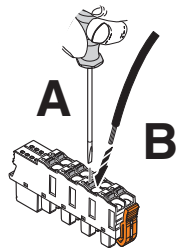

Figure 8-3 Connecting a stranded cable
- Open the spring by pressing the screwdriver onto the spring lever (Figure 8-3, A). Use, for example, a bladed screwdriver with a blade width of 2.5 mm. Phoenix Contact recommends the SZS 0,4x2,5 screwdriver (see Section "Ordering data" on page 139).
- Insert the cable in the terminal point (B).